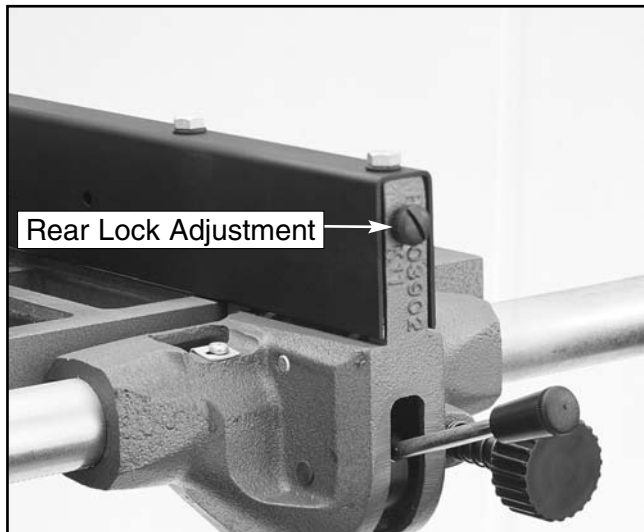

Figure 33. Rear lock adjustment screw.
- Loosen the rear lock adjustment, the slotted screw on the front of the fence shown in **Figure 33**, until the rear locking lever ceases to engage the rear rail with the fence in the locked position.